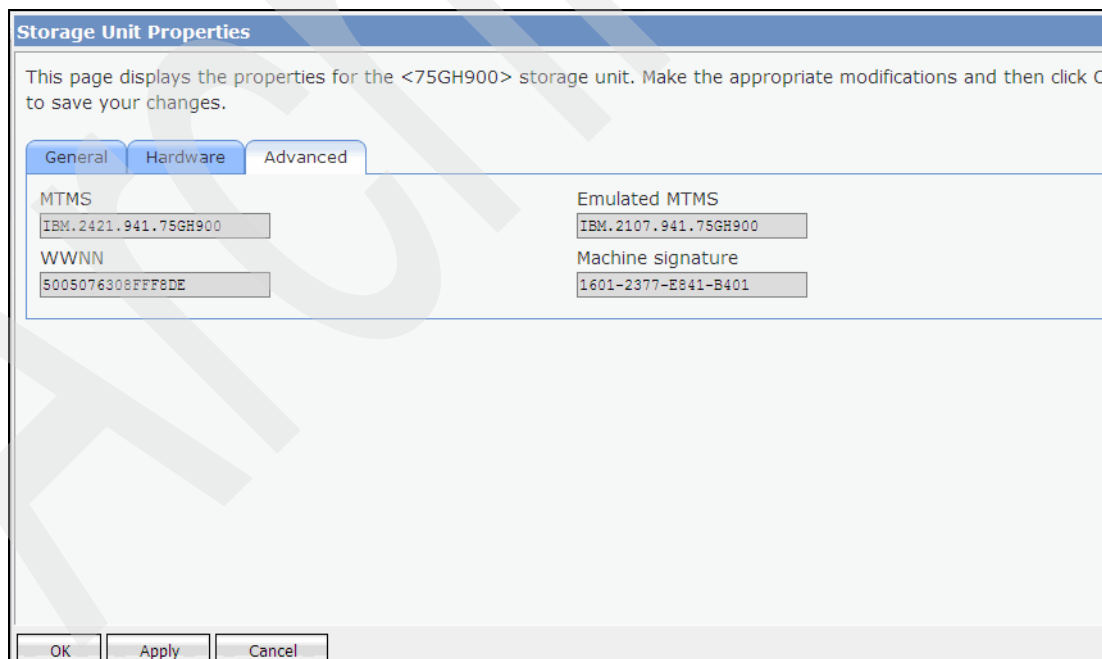

Figure 10-4 Storage Unit Properties window
- The Storage Unit Properties window opens. Click the **Advanced** tab to display more detailed information about the DS8700 storage image, as shown in Figure 10-4.